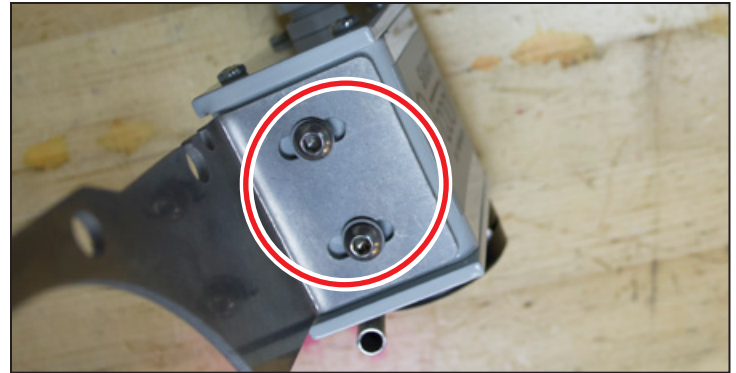

Figure 4
3. Position SmartCool Head Unit roughly in center of slots on Mounting Bracket (see **Figure 4**). Final adjustments will be made after installation is complete to ensure coolant stream is correctly positioned.